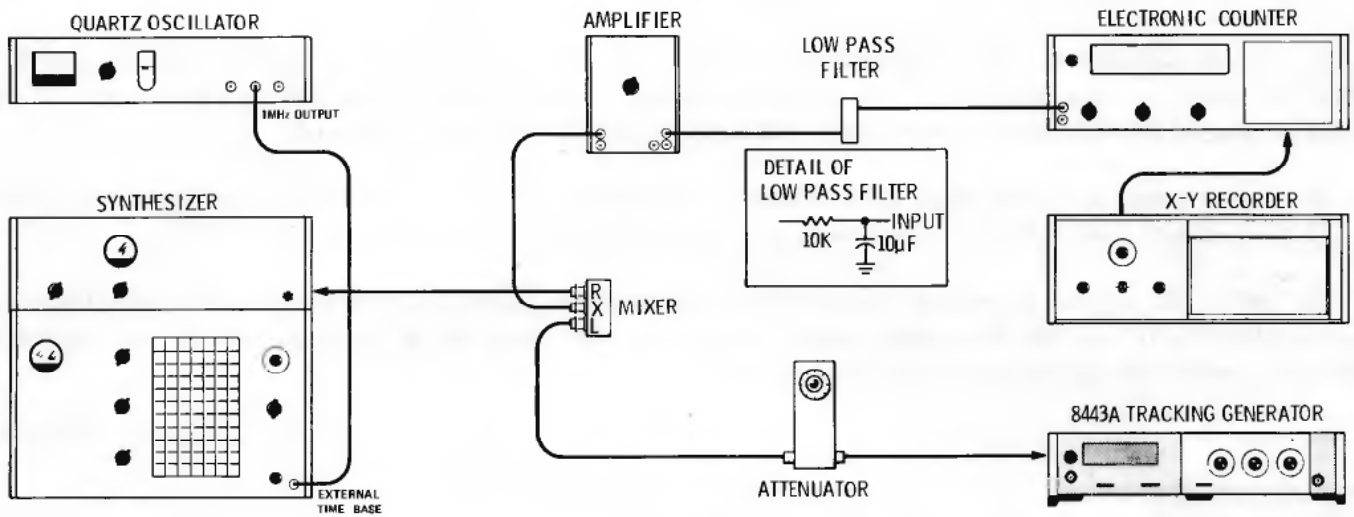

Figure 4-5. Time Base Aging Rate Test
2. After connecting the equipment as shown in Figure 4-5 and setting controls, use the oscilloscope to check for the presence of 60 cycle ac on the 1 cycle input to the frequency counter. If 60 cycles is present it is probably due to a ground loop. Check all equipment grounds.